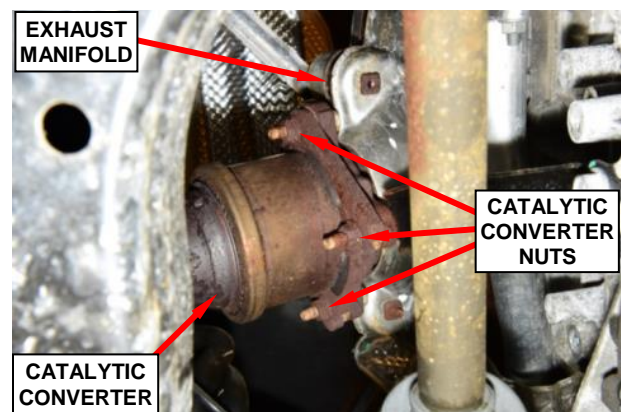

Figure 30 – Catalytic Converter Nuts
96. **For FWD vehicles only**; Remove and discard the four nuts securing the catalytic converter to the exhaust manifold (Figure 30).